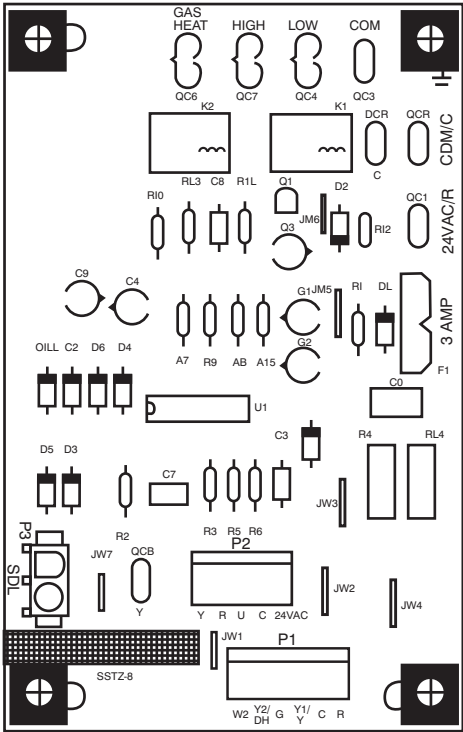

Fig. 18 - Interface Fan Board (IFB)
This unit is factory-set up for use with a single cooling fan speed. The cooling speed is marked "LOW" on the interface fan board (IFB)(Fig. 18) . The factory-shipped settings are noted in Table 9. There are 3 additional speed tap wires available for use in either gas heating or cooling (For color coding on the indoor fan motor leads, see Table 6). The additional 3 speed tap wires are shipped loose with vinyl caps and are located in the control box, near the interface fan board (IFB) (Fig. 18).
2. Remove the current speed tap wire from the "GAS HEAT" terminal on the interface fan board (IFB) (Fig.18) and place vinyl cap over the connector on the wire.
2. Remove the current speed tap wire from the "LOW" terminal on the interface fan board (IFB) (Fig. 18) and place vinyl cap over the connector on the wire.
1. Remove fan speed tap wire from the "LOW" terminal on the interface fan board (IFB) (Fig. 18).
speed when the DH control lead is not energized, or IFB “HIGH” speed when the DH lead is energized (see Fig. 18).